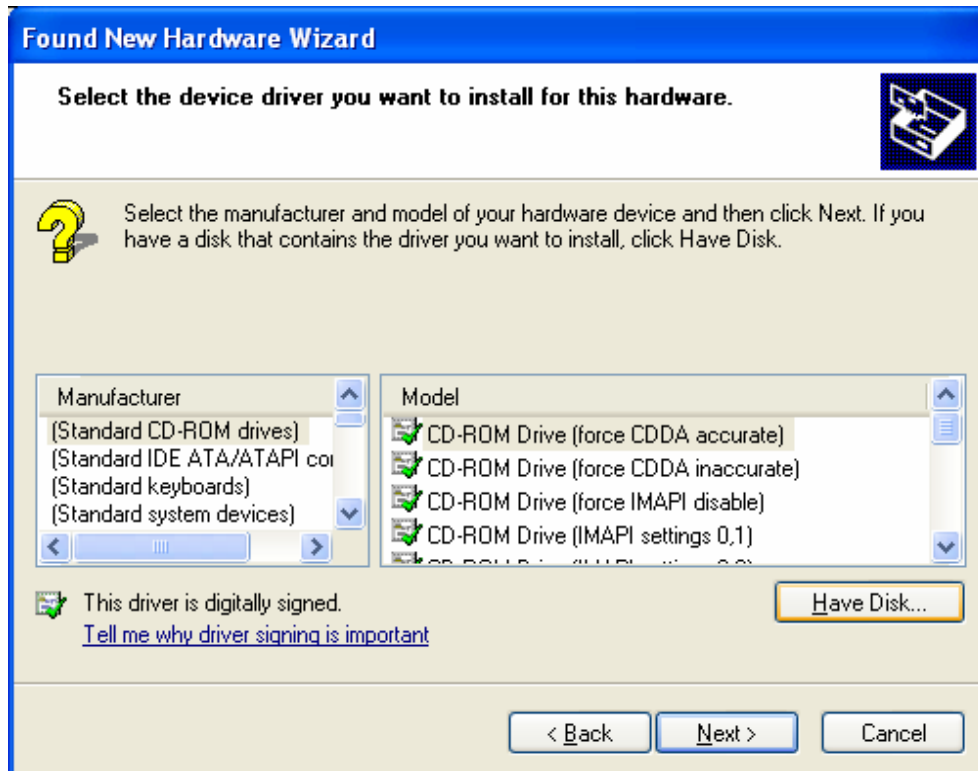

Figure 2-5
Step 4: Select **Show All Devices** as shown in Figure 2-5, then click **Next**.